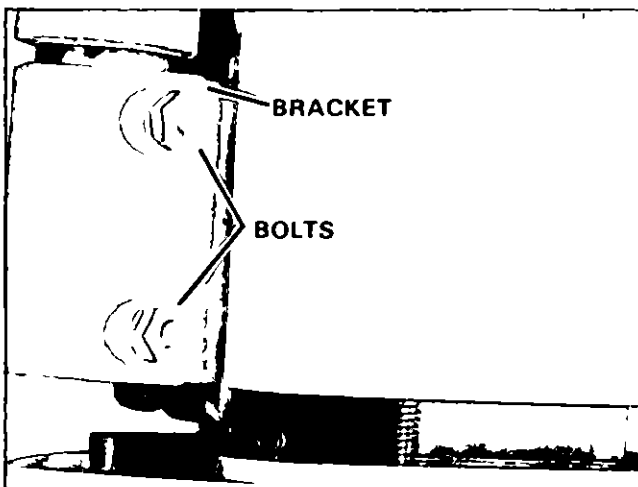

Figure 4. Removing Lower Shock Mount.
A Remove two (2) hex bolts, lockwashers and nuts securing lower shock mounting bracket Figure 4